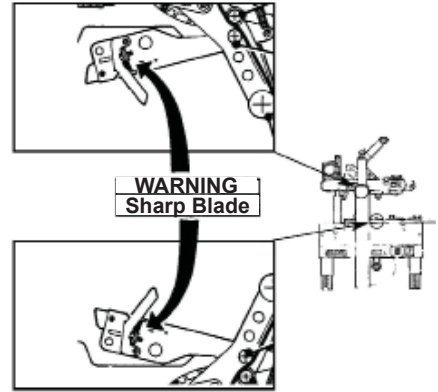

Figure 3-5
**Important!** Tape cutting blade. Never remove the safety device which covers the blade on the top and bottom taping units. Blades are extremely sharp. Any error may cause serious injuries (Figure 3-5).